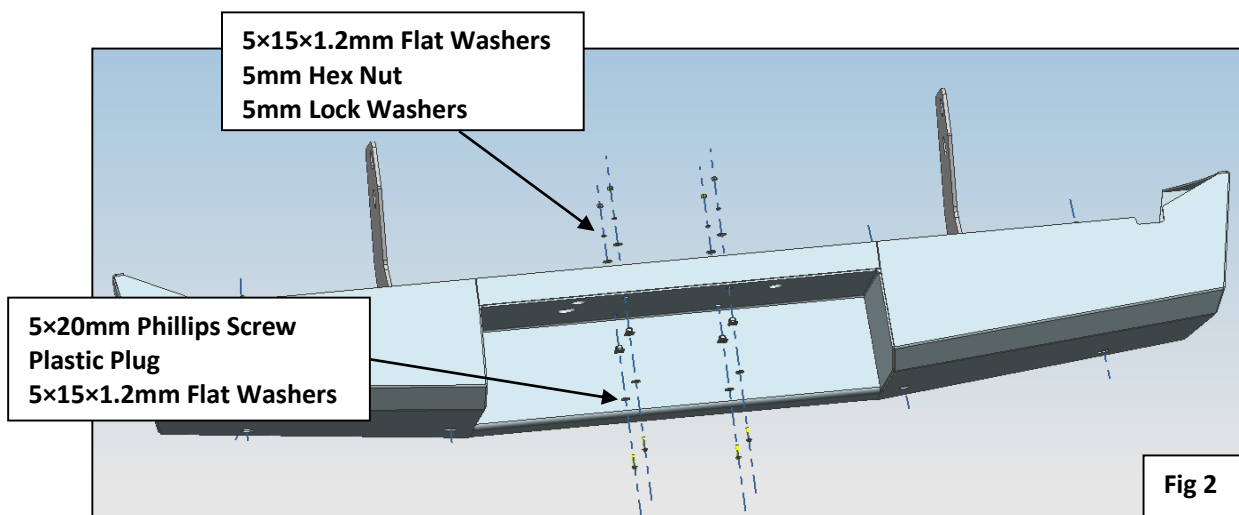

Fig 2
1. Attach the license plate to the Replacement Rear Bumper **(Fig 2)**. Fasten the license plate with the hardware.